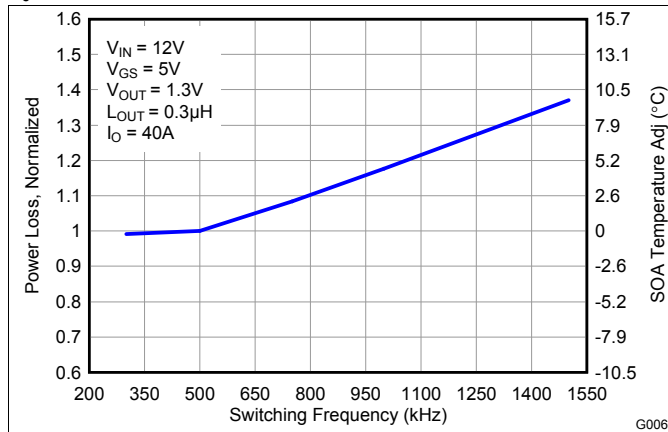

Figure 6. Normalized Power Loss vs Switching Frequency
- Normalized power loss for switching frequency ≈ 1.11 (Figure 6)
- SOA adjustment for switching frequency $\approx 2.8^\circ\text{C}$ (Figure 6)